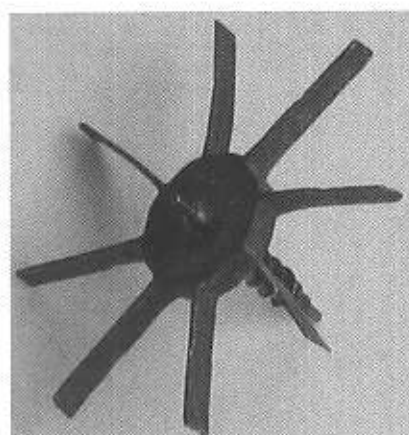

Fig 10. The early type of fly.
8. The fly shown in Figure 10 has particularly fine blades to achieve the